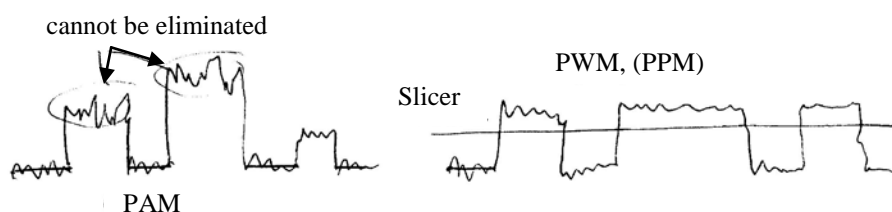

Figure 6 Illustration of effective of additive noise on PAM (left) and PWM, and PPM (right)
2. PAM is less tolerant to additive noise than PWM or PPM. This follows since the information in PAM is related to the amplitude of the pulses whereas in PTM, the amplitude is constant. So as shown in Figure 6 if the amplitude of the signal is changed by additive noise; this cannot be eliminated from a PAM signal. Whereas for PTM we can use a slicer to eliminate the noise since the noise cannot move the edges unless the noise is of the same magnitude as the signal at which point it rapidly engulfs the signal threshold. That is if the edges of the pulses are vertical then additive noise does not have any time to exert any perturbations on the signal hence, additive noise has no effect because noise introduces only vertical perturbations. However in real systems, vertical edges can not be transmitted since channels tend to be bandlimited, hence PTM is also affected by noise.